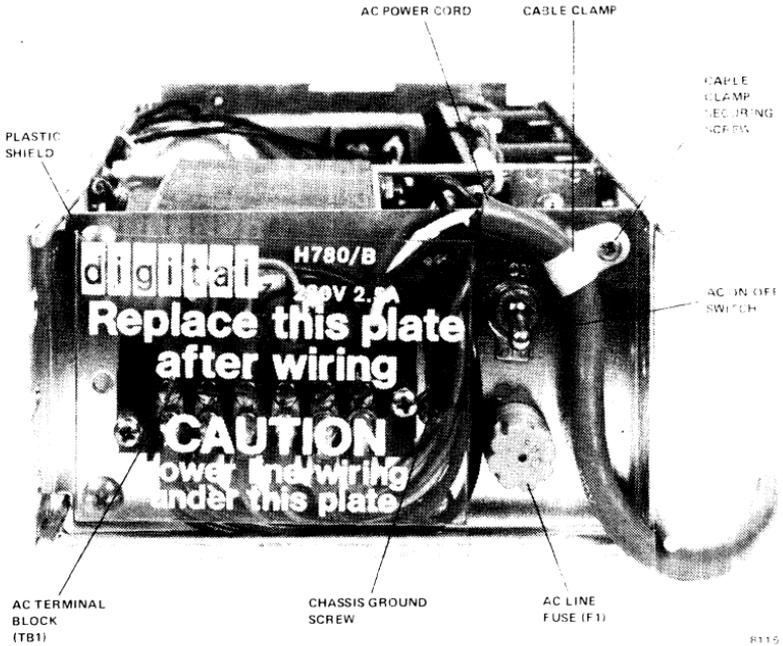
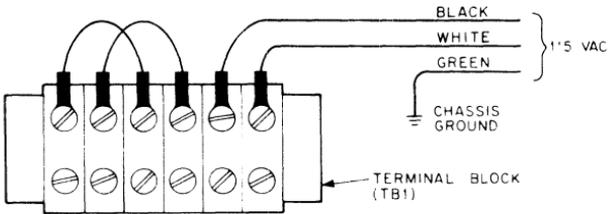
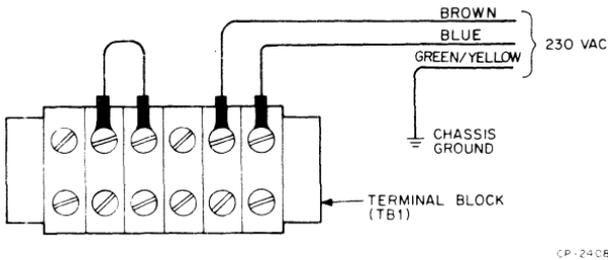

Figure 4-44 AC Terminal Block at Rear of H780
Figure 4-45 H780-C, -H, and -K (115 Vac) AC Terminal Block Wiring Configuration
Figure 4-46 H780-D, -J, and -L (230 Vac) AC Terminal Block Wiring Configuration
**Connecting AC Line Cord** – The H780 power supplies are equipped with a terminal block (Figure 4-44) at the rear. Jumpers on this terminal block configure the supply for 115 Vac or 230 Vac operation (Paragraph 4.6 4 3) while two of the terminal block screws provide a means of connecting ac input power to the H780. A suitable length of No. 16 AWG, 3-conductor, stranded power cord is to be connected to the terminal block as shown in Figure 4-44 (for H780-C, -H, and -K supplies), or Figure 4-46 (for H780-D, -J, and -L supplies). The jumpers shown in Figures 4-45 and 4-46 are factory-installed. However, the jumper configuration can be altered by the user to change the ac input from 115 V to 230 V for the H780-C, -H, and -K, or from 230 V to 115 V for the H780-D, -J, and -L. European users are advised not to operate an H780-C, -H, or -K power supply on a 230 Vac line as these supplies are not
equipped with a RFI line filter. When installing the ac line cord, remove the plastic shield covering the terminal block (Figure 4-44). Terminals should be crimped or soldered to the power cord wires. Connect the ac phase wires to the terminal block (Figures 4-45 and 4-46) and connect the ac ground wire to the H780 chassis using the Phillips head screw to the right of the terminal block (Figure 4-44). This screw also provides a ground for the RFI filter in the H780-D, -J, and -L supplies by means of a green/yellow wire. Make sure this wire is reconnected to ground when replacing the screw. Be sure to replace the plastic shield over the terminal block after completing the wiring. Route the power cord to the top of the H780 chassis and secure it to the chassis with a suitable strain relief, as shown in Figure 4-44. The upper right screw at the rear of the H780 chassis can be used to anchor a cable clamp. The free end of the power cord should be terminated with a connector which is suitable for the user's requirements.
3. Set the H780 AC ON/OFF switch (Figure 4-44) to ON. The fans in the H780 should operate.
**4.6.4.6 Console Controls and Indicators** – The H780-H or -J master console has three LED indicators and three 2-position toggle switches. One of the LED indicators is a spare indicator. Circuitry to drive this indicator is included on the console printed circuit board for user application. The console on the H780-K and -L slave supplies has only one LED indicator, DC ON. Figure 4-57 shows the H780 console controls and indicators; they are described in Table 4-13. Additionally, the rear panel of the H780 contains an AC ON/OFF toggle switch and an ac line fuse (Figure 4-44).